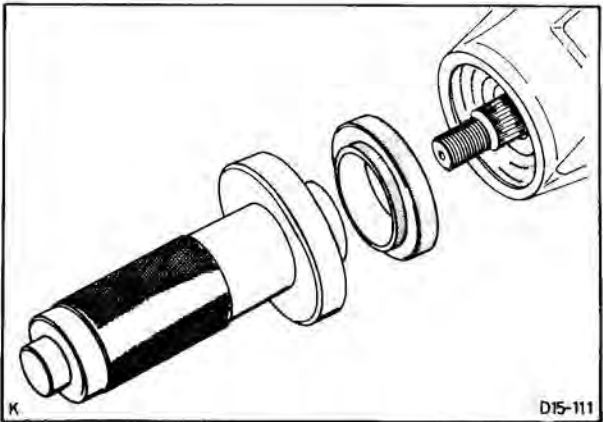

Fig. 84. Fit oil seal with special tool 15-047A
- 36. Fit oil seal with Special Tool. Grease in seal as supplied must not be removed, Fig. 84.